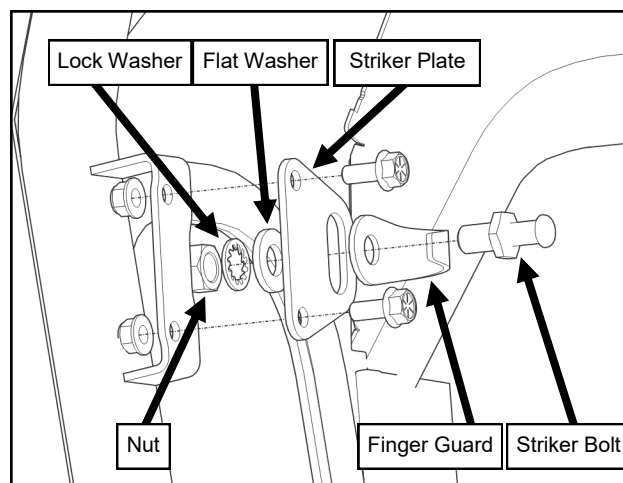

Fig. 24.1 (Door Striker)
- 24.1 Install the striker plate to the A-pillar mounting bracket with the large slot toward the inside of the cab (see Figure 24.1).
- 24.2 Install the striker parts oriented as shown in Figure 24.1. Note the finger guard should always be oriented toward the inside of the cab.